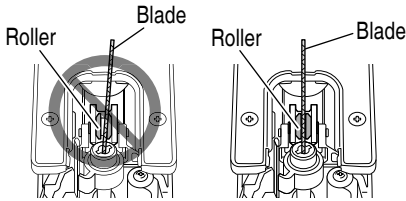

Fig. 9
- Confirm the blade located between the groove of roller. (Fig. 9)